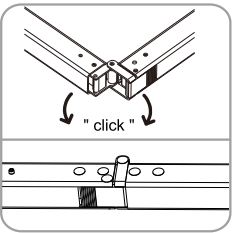

Figure 5
3. To secure frame, " click " hinges into place. Extend horizontal side of main frame (Figure 5 - 6).